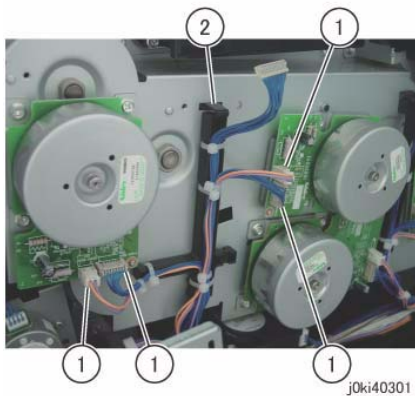

Figure 1 Move the Harness Holder
8. Move the Harness Holder. (Figure 1)